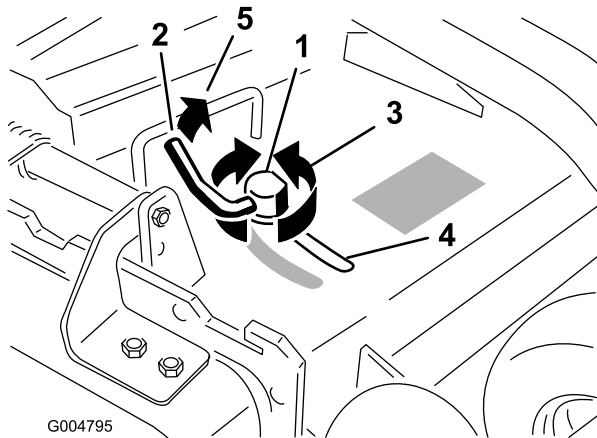

Figure 30
3. To adjust the cam lock, swing the lever up to loosen the cam lock (Figure 30).
- Swing the lever back over to tighten the baffle and cam lock (Figure 30).